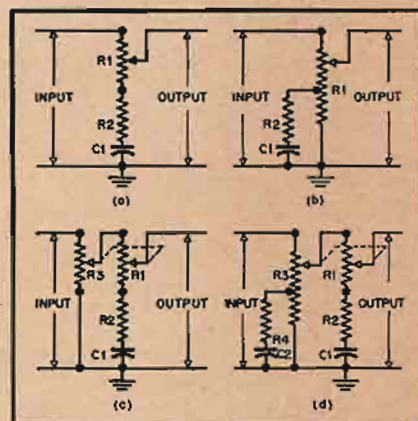

Fig. 7. Bass-compensation input circuits.
Such a combined control has been used in one particular form, as at (B) of Fig. 7, in many receiver designs over a period of about twenty years, affording some, but usually not enough compensation. This form, as well as that of Fig. 6, is based on the fundamental compensator circuit of (A), Fig. 7. As the slider of potentiometer R_1 moves down toward R_2 , the output voltage becomes more nearly the potential drop existing across capacitor C_1 . R_2 is the limiting factor which determines the maximum high-frequency attenuation and, together with
C_1 , the upper limit of frequency compensation ($T = R_2 C_1$, and $f_c = \frac{1}{\pi T}$ at +1 db from flat response). This circuit is simple and approaches a maximum of 6 db compensation per octave below f_c ; unfortunately, as in Fig. 6, it has the fatal defect of not allowing the volume control to reach essentially zero output level, because R_2 must have a rather high finite value (about $1/20$ of R_1). This difficulty can be overcome in inexpensive fashion by shunting $R_2 C_1$ to ground with part of potentiometer R_1 , which then also provides a d.c. grid-return path. The result is the familiar tapped volume control circuit of (B), Fig. 7. The response obtained with typical values in such a system is shown in Fig. 8. The compensation is not very close to the theoretical values of Fig. 5 for two reasons: (1) $R_2 C_1$ is shunted by a fixed value of resistance (from the potentiometer tap to ground) which is
A more expensive but generally better way of overcoming the low volume limitation of the basic circuit of (A), Fig. 7, is to add a linear voltage divider section ahead of it. Potentiometer R_3 in (C) accomplishes the purpose of reducing the output to "zero" in the region where R_2 prevents the slider of R_1 from reaching ground potential. The limitation on the low-frequency compensation afforded by this circuit to less than 6 db per octave maximum is primarily due to the reduction in signal current through branch $R_1R_2C_1$ at the lower frequencies. This takes place as a result of the rise in reactance of C_1 with decreasing frequency with a proportionate diversion of current through the lower shunt value of R_3 at reduced volume settings. It is also feasible to include high-frequency